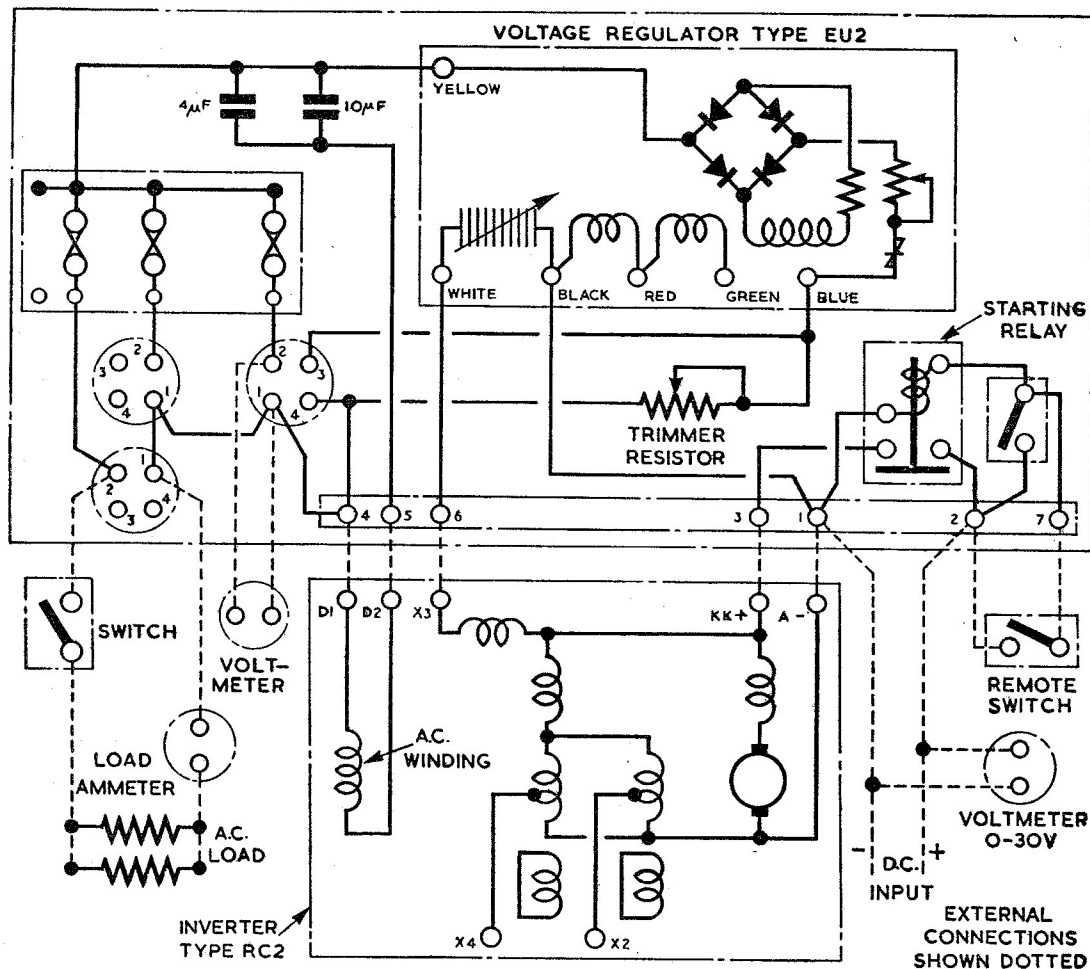

Fig. 1. Circuit diagram
3. The single-pole switch, Type B (*fig. 1*), connected in parallel with a remote control switch, is mounted flush with the vertical plate of the control panel. The closing of this switch brings into operation the magnetic relay switch, Type K3; the ON and OFF positions are marked on the front of the switch each side of the dolly.